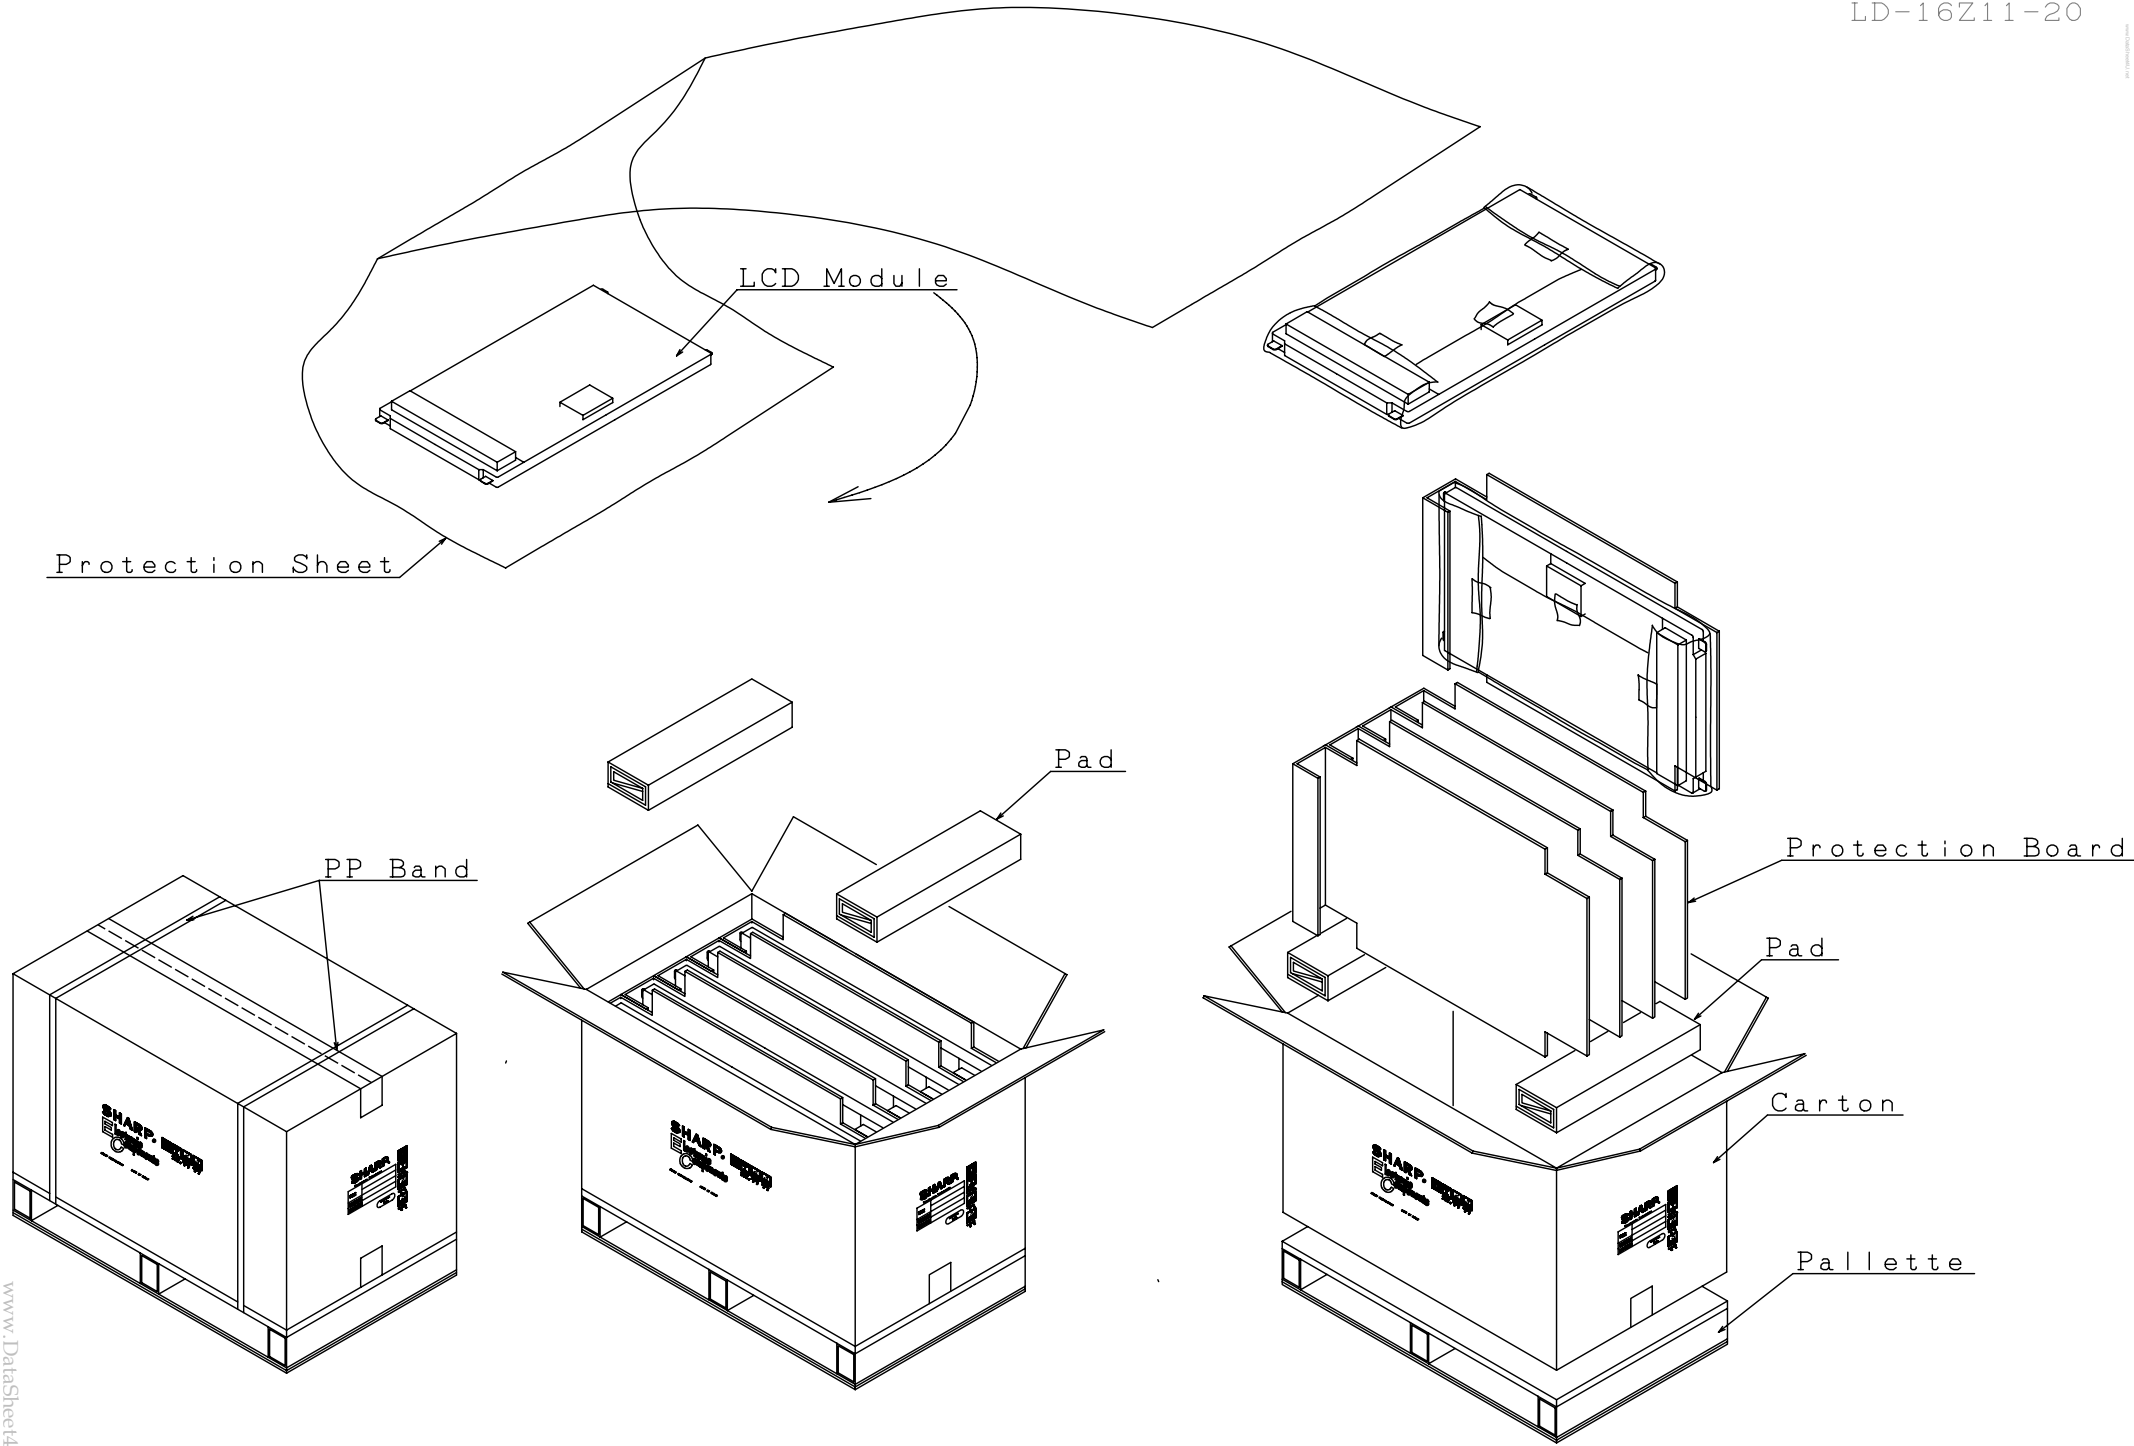

Fig.4 Packing Form
- c) Carton size: 840 mm(W) x 630 mm(D) x 665mm(H)
- Packing form figures are shown in Fig.4